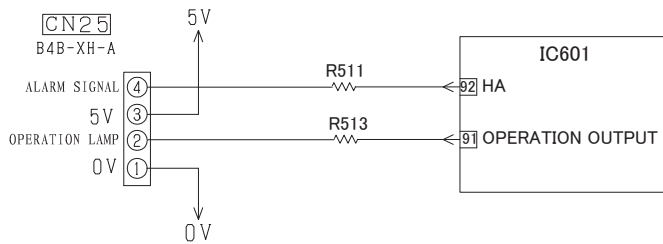

Fig.13-1
Fig.13-1 is the control circuit of run status and signal output in main PWB. The pin ② of CN25 is used to show run status and the pin ④ of CN25 is used to warn people when failure occurrence. If customer want to use this function, need to use the adapter(sold separately) to achieve it. the adapter is optional and the detail circuit refer to following circuit.